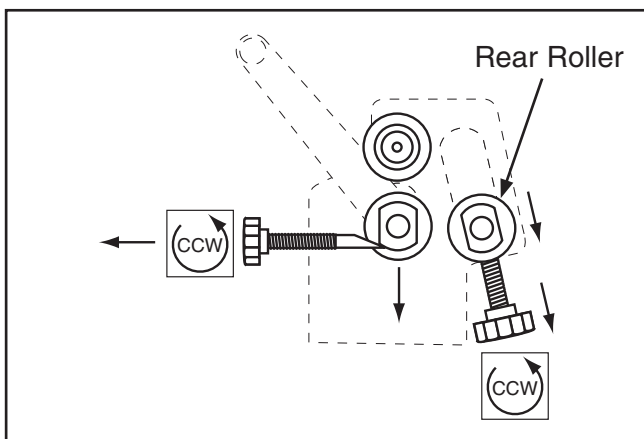

Figure 13. Slip roll preparation.
1. Turn the thickness adjust knob to lower the bottom roller to approximately $\frac{1}{4}$ " below the top roller. Use calipers or a spacer to set the distance between the rollers evenly at each end (**Figure 13**).
2. Lower the rear roller until it is approximately even with the bottom roller (**Figure 13**). Use calipers or a spacer to set the distance between the rear roller and top roller evenly at each end.